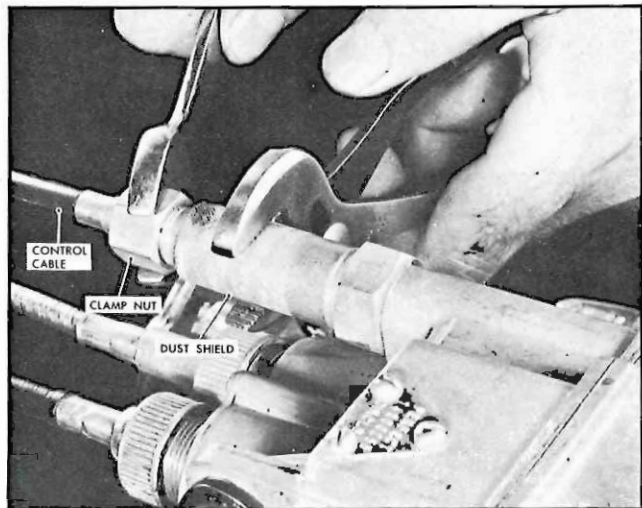

Fig. 11—Removing Clamp Nut
2. Hold dust shield so that it will not rotate while unscrewing clamp nut (fig. 11). Let nut slide down control cable. NOTE: This nut retains control cable in bottom of dust shield.